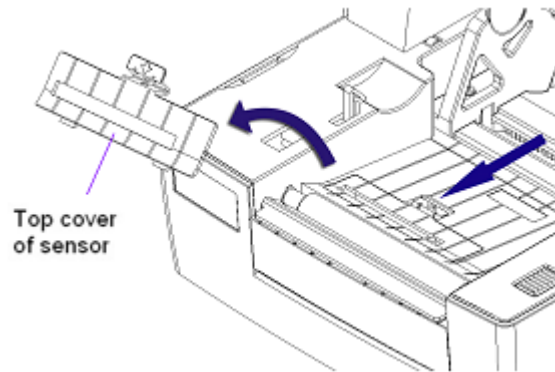

Figure 3.3.1
- 2) Push the latch according to the arrow on top cover, then turn and take off top cover of the sensor (see figure 3.3.1).